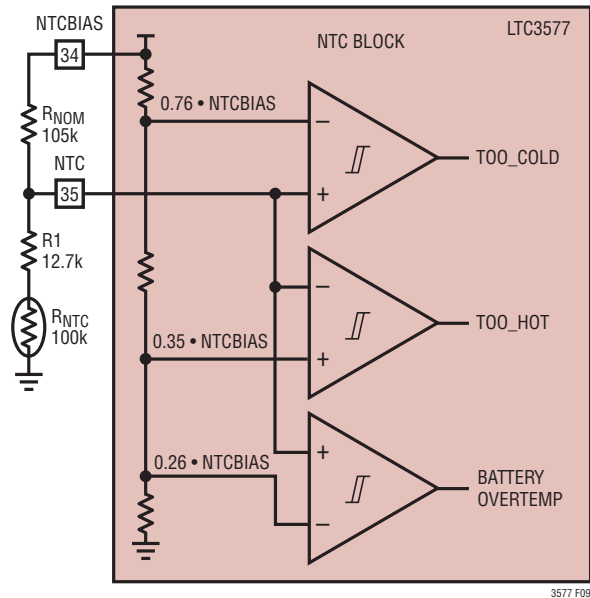

Figure 9. NTC Thermistor Circuit with Additional Bias Resistor
- R_{NOM} = Primary thermistor bias resistor (see Figure 9)
- R_1 = Optional temperature range adjustment resistor (see Figure 9)
The upper and lower temperature trip points can be independently programmed by using an additional bias resistor as shown in Figure 9. The following formulas can be used to compute the values of R_{NOM} and R_1 :
the nearest 1% value is 12.7k. The final solution is shown in Figure 9 and results in an upper trip point of 45°C and a lower trip point of 0°C.